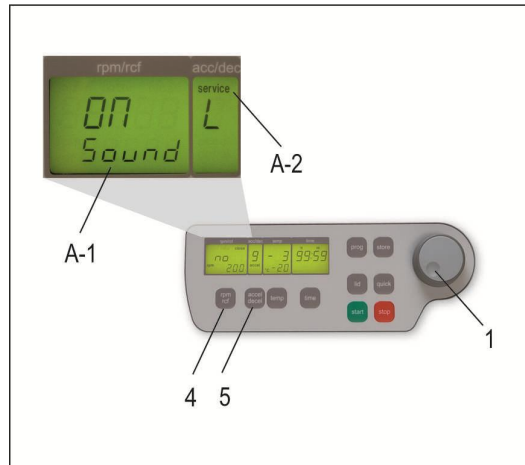

Figure 6
Proceed as described under point 1.8.2 to enter this program mode and then press the key „accel/decel“ (5). In the display „accel/decel“ (A-2) flashes the word „service“. Now select the letter „L“ with the adjusting knob (1). As a result appear in the display „rpm/rcf“ (4) the words „On Sound“. If you press the key „rpm/rcf“ (4) now, the word „On“ flashes and you can switch off the sound with the adjusting knob (1) (see figure 6).